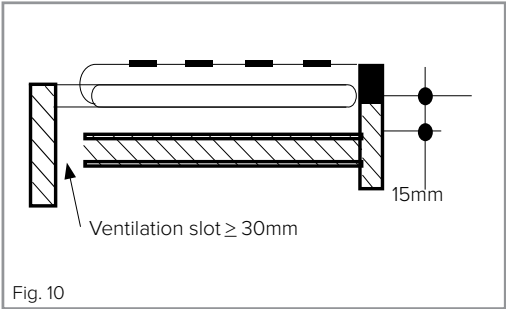

Fig. 10
- temperatures. If the hob is to be installed above a working drawer, then a partition should be fitted to protect the contents and user from the heat generated during use. This should be fitted at least 15mm below the hob. This panel should have a ventilation space at the rear of greater than 30mm as shown in Fig. 10 on page 25.